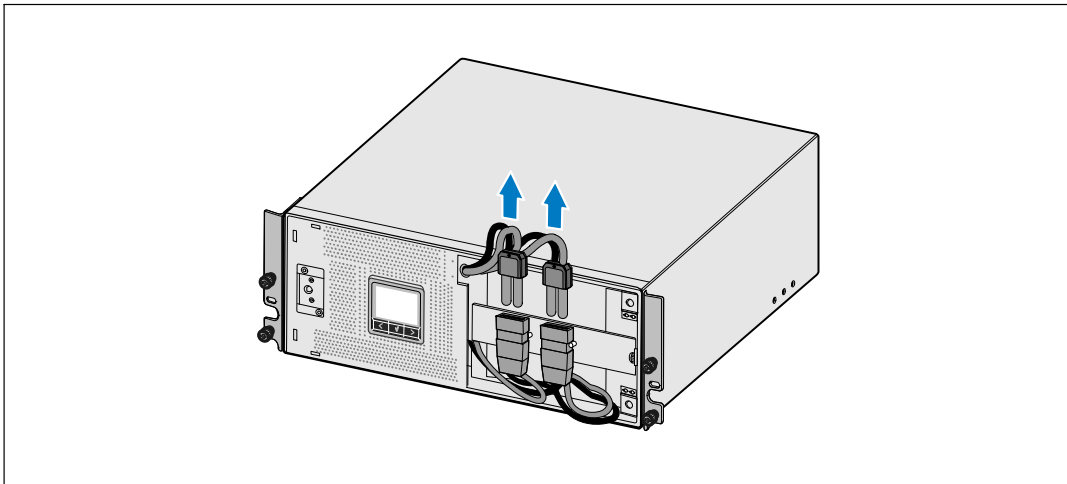

Figure 27. Disconnecting the Internal Battery Connector
- 4 Disconnect the internal battery connectors (see Figure 27).